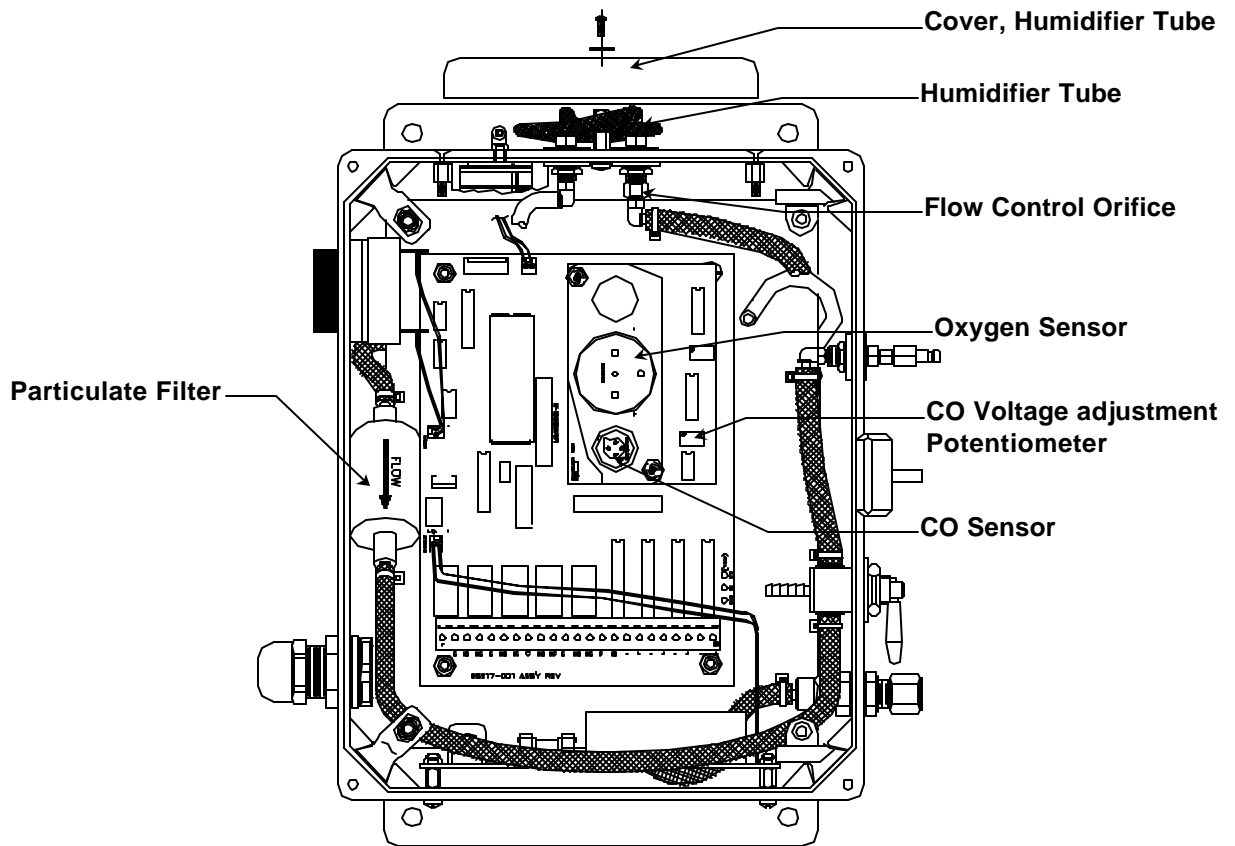

Figure 10: Location of Parts for Replacement
- Adjust to: .65V if it is not between .38 – .68V. Adjust this voltage during the last 30 seconds of the calibration interval, using the bottom most potentiometer on the sensor circuit board. See **Figure 10**.
- Remove the sheet metal cover from the top of the enclosure, exposing the humidifier tube. See **Figure 10**.
A 0.006-inch diameter orifice is used to set the flow rate and to drop the air pressure. It is located where the air enters the humidifier tube, see **Figure 10**. In well-maintained medical air systems, this orifice should not clog. However, if difficulty is experienced in maintaining flow rate with assured inlet pressure, remove air pressure from the equipment and examine this orifice; replace it if necessary.
On instruments with serial numbers S/N 332 and above, a filter is installed inside the enclosure, as shown in **Figure 10**.